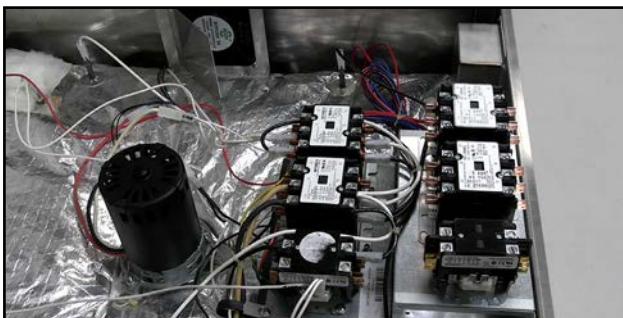

Fig.71
****The existing relays will not operate with the new control board.**** (Fig.71)